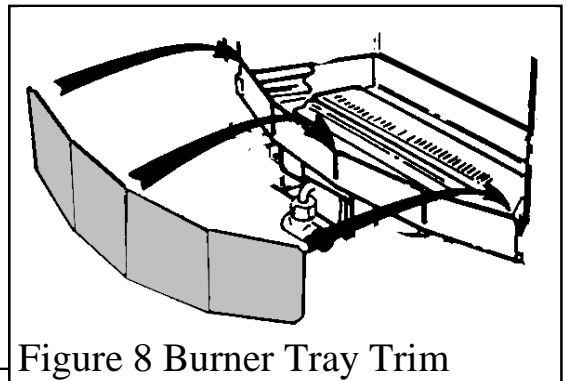

Figure 8 Burner Tray Trim
1. Fit the burner tray trim over the front rim of the burner tray. Push the trim fully down. See figure 8.